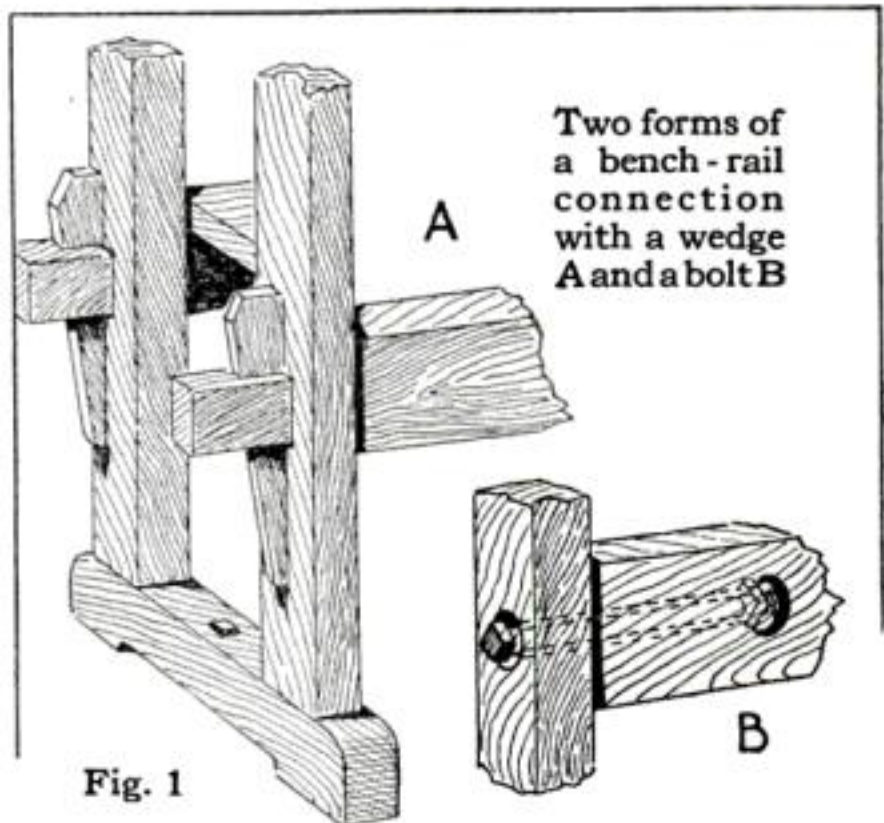

Fig. 1
I. Rigidity: This may be secured in a bench made with mortise and tenon joints, or of draw-bolt construction, Fig. 1. The bench should be firmly fastened to the floor by lag-screws passing through the two foot-pieces.
The first stick should be held by the left hand on the near side of the rope. The other stick, held in the right hand, is next thrust down on the far side of the rope, and brought against the near side of the first stick. By pulling and bearing downward it is brought to the position shown in Fig. 1. By continuing to swing